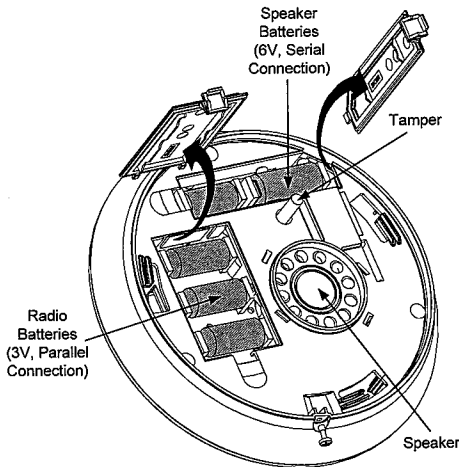

Fig. 3
Insert the supplied batteries into the battery chambers (speaker and radio) paying attention to the polarity (Fig 3).
4. Insert two speaker batteries into the batteries chamber (Fig. 3).
Power Supply	5 X CR123, 3V Lithium Battery (3 batteries for the Radio Transceiver, 2 batteries for the Speaker (see Fig. 3 on page 5))